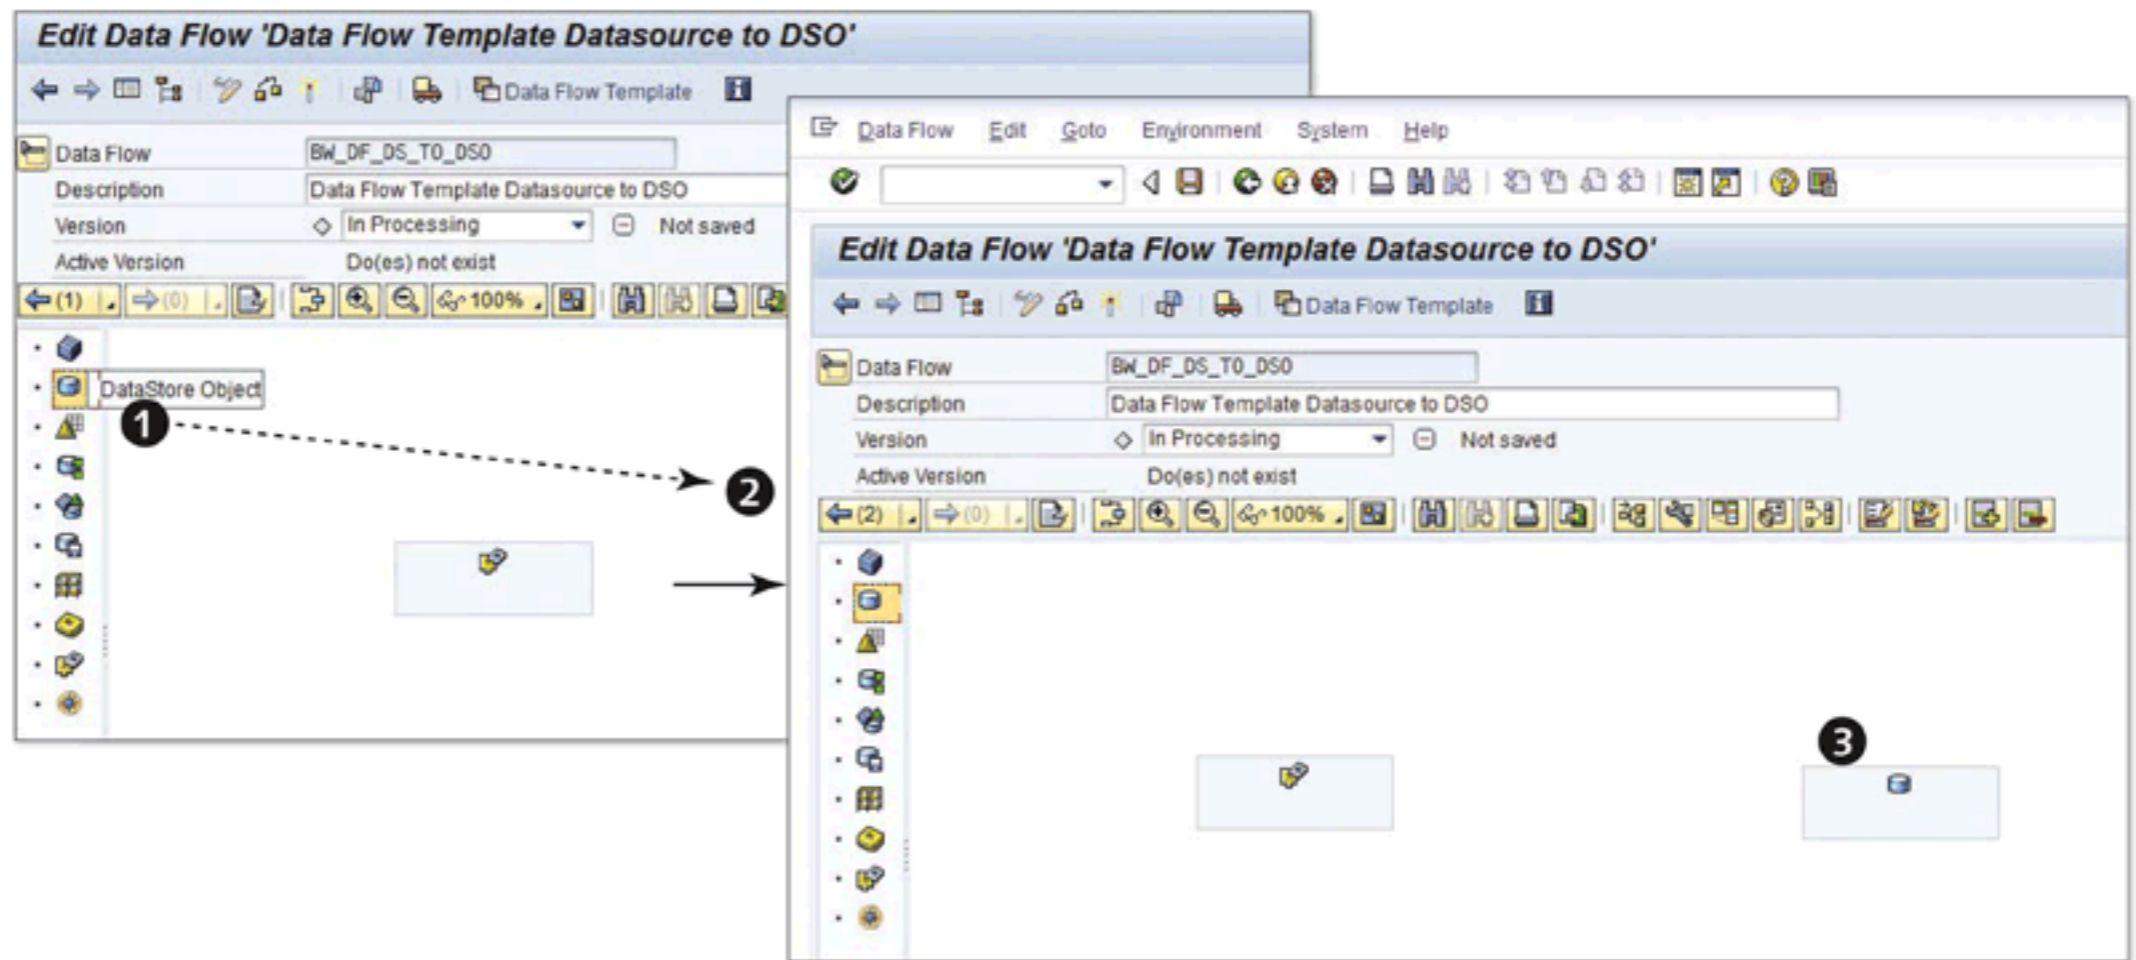

Figure 7.91 Edit Data Flow: Part 2
Now select another object from the left panel. This time it is a DSO object, as shown in ❶ of Figure 7.91. Drag and drop this DSO object into the free space available in the right panel, as shown in ❷ of Figure 7.91. This makes the DSO object available on the right panel, as shown in ❸ of Figure 7.91.